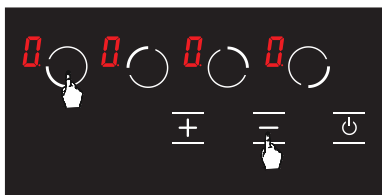

Figure 14
1. Press front left hob selection key (  ) and minus key (  ) simultaneously, you shall hear a short warning signal at this time. (see Fig. 14) Then, remove your fingers from the stove control panel.